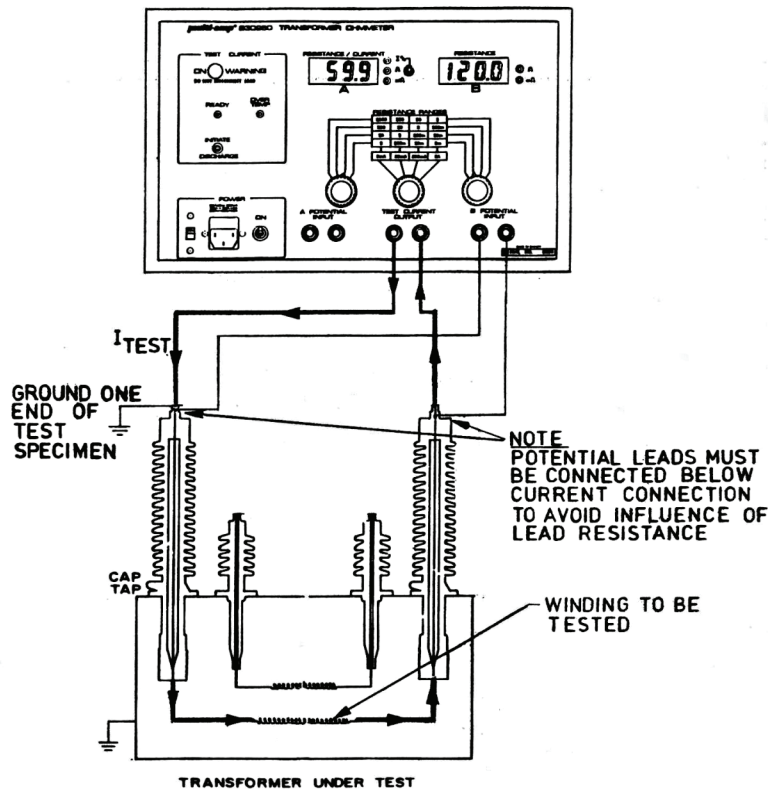

FIGURE 2: SINGLE WINDING MEASUREMENT
See Figure 2 for connection to the test transformer.
- a. Display Selector (14): up position.
- b. Range Selector "A" (12): left most position.
- c. Range Selector "B" (13): right most position.
- d. Current Selector (11): to desired test current (guide by resistance table on face plate).
3. Connect current output (9) to test specimen winding. See Figure 2.
4. Connect "B" potential input (10) to test specimen winding. Do not clip potential leads on to the current leads, since this will add contact resistance to the measurement. Potential leads should always be placed inside (between) current leads. See Figure 2.
5. Turn power switch (1) "ON". "READY" L.E.D. (5) should illuminate.
6. Push current control switch (4) up to initiate current flow. Release when current indicator (7) comes ON.
7. Display "A" (15) indicates current output (in %). As output current approaches steady value, display "B" (16) comes on and indicates resistance of specimen.